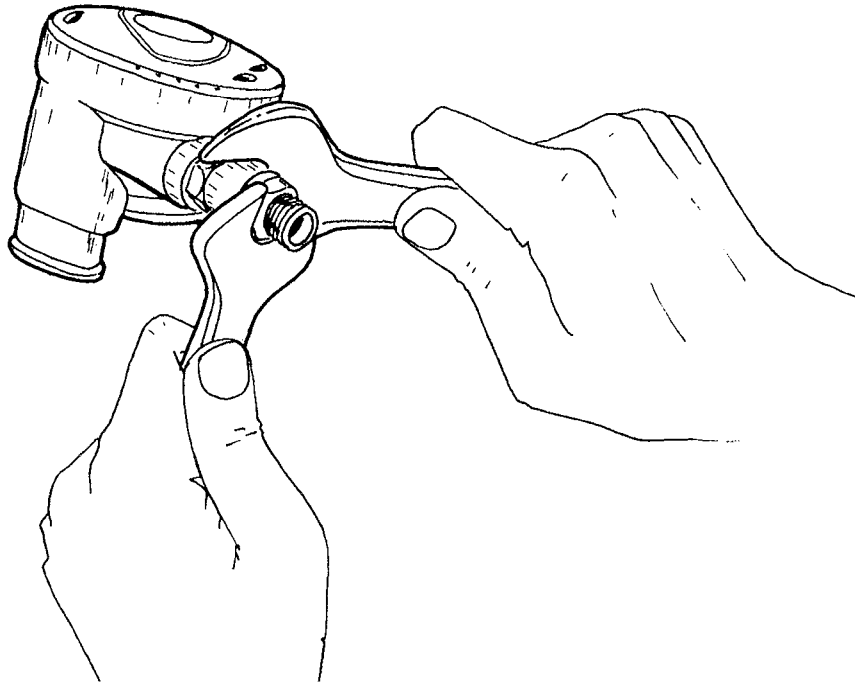

FIG. 1
3. Remove the mouthpiece (44).
4. Remove the exhaust tee (41).
6. Remove O-Ring (27) from hose connector.
7. Holding the inlet fitting in place with wrench (B-9) and remove hose connector (28) with wrench (B-17). (Fig.1)